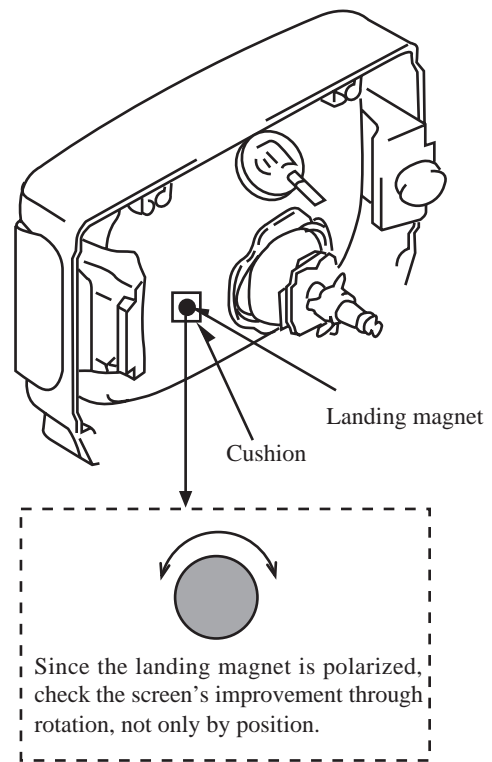

Fig 1-6
- (5) Gradually shift the deflecting yoke toward the front (toward the CRT funnel). Stop movement at the point when the screen has become completely green.
- (6) Also, verify the respective monochromatics of red and blue.
- (7) While looking at the screen, adjust the tilt of the deflecting yoke and tighten the DY lock screw.
- (8) Shift the magnet assembly to the front (toward the CRT funnel), stop movement before the adjustment position and then tighten the magnet lock screw.
- ✳ If the color irregularity in the screen's corner section are not improved, correct them with the landing magnet. After using the landing magnet, be sure to demagnetize the CRT with degausser and verify that there is no occurrence of color irregularity. (refer to Fig. 1-6)